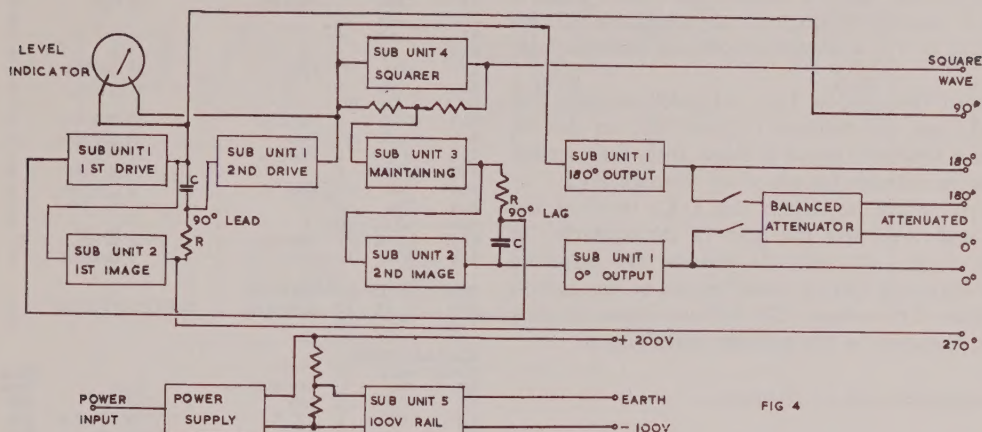

FIG 4
4.1. The equipment is built up from ten sub-units, together with the main wiring. There are only six different types of sub-unit and these are used as follows (Fig. 4).